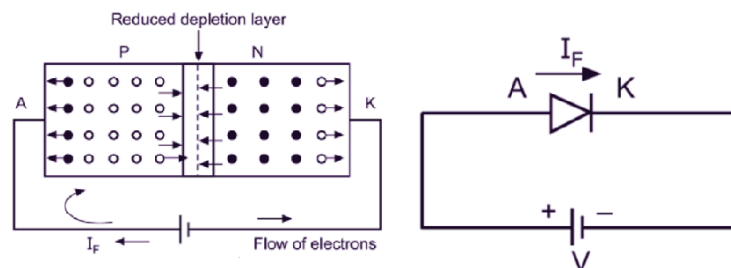

Figure 1.4: Forward Biasing of the Diode
- V-I characteristics of PN junction is the graph of voltage applied across the PN junction and the current flowing through the PN junction. The Fig. 1.4 shows the forward biased diode.